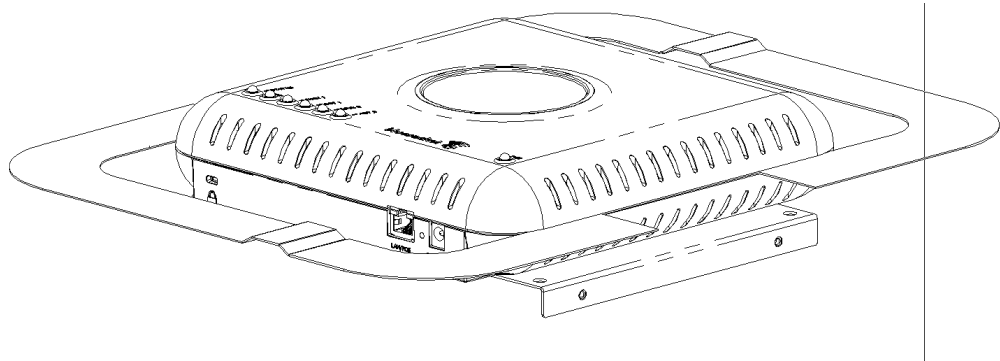

Figure 8: Trim Plate Installation
3. Slide the Trim Plates into the grooves of the BSAP-1800 unit as shown in Figure 8. Slide each half of the trim plate until the halves click into place.